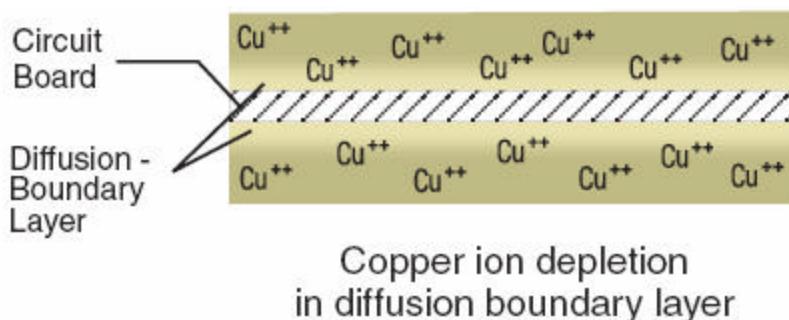

Figure 1 – Plating Ions at the Substrate Surface
2. To provide a constant supply of plating ions (Figure 1) along with other brighteners and wetting agents to the substrate. Burning occurs when the solution immediately surrounding work, often called the diffusion layer, becomes depleted of ions.